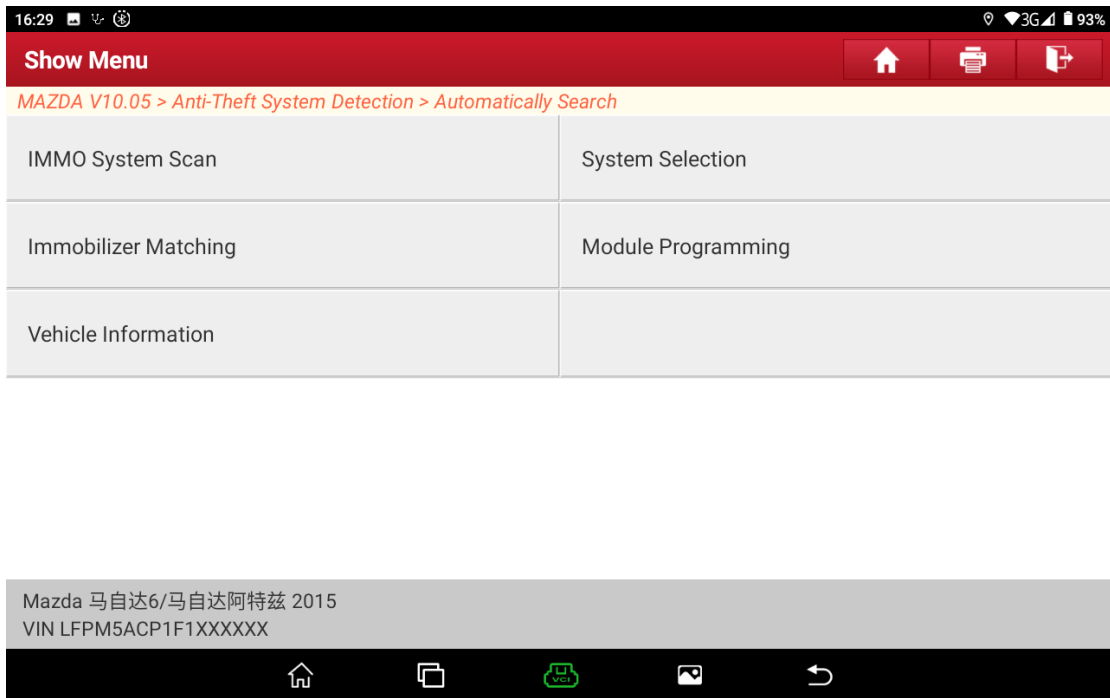

Figure 6
4. Choose [Immobilizer Matching]. See Figure 6.